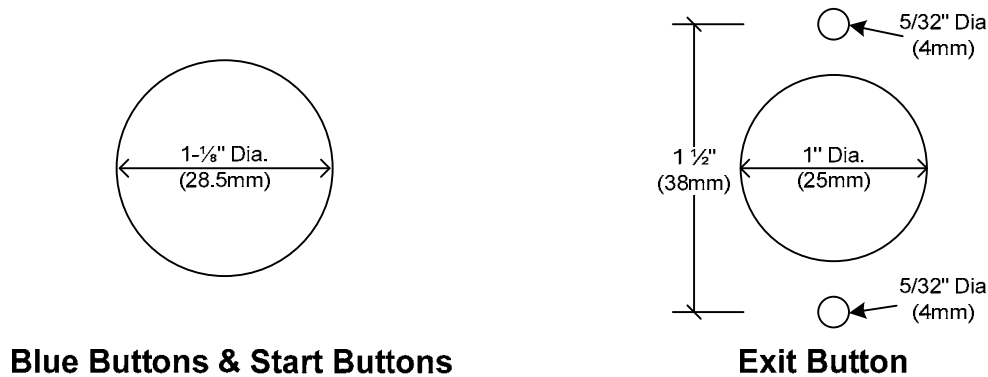

Figure 4. Drilling Button Holes
- *Figure 4. Drilling Button Holes*, on page 10